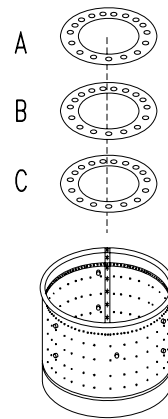

Figure 13: BURNER RINGS POSITION
- Make sure that the (3) rings are in the right position. Each of them is stamped with the letter A, B, or C (figure 13).